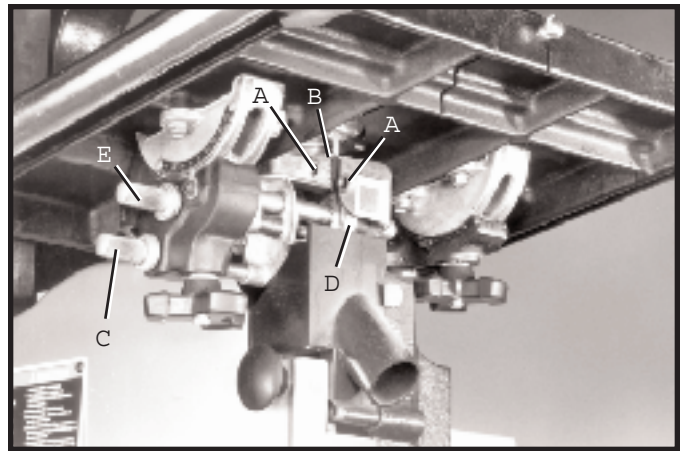

Fig. 46
1. Loosen the two screws (A) Fig. 46, and move the guides (B) as close as possible to the side of the blade, being careful not to pinch the blade. Then tighten screws (A).
2. The front edge of the guide blocks (B) should be adjusted so they are just behind the gullets of the saw teeth by turning the knurled knob (C) Fig. 46.
3. The lower blade support bearing (D) Fig. 46, should be adjusted so it is about  $1/64$  behind the back of the blade by turning the knurled knob (E).